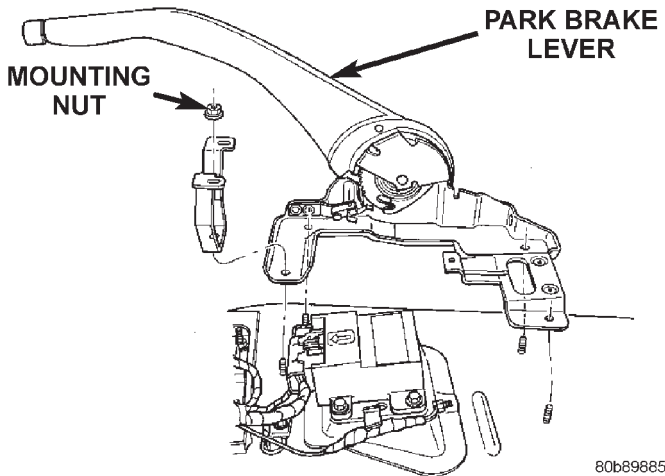

Fig. 46 Parking Brake Lever Mounting
- (8) Remove the park brake lever mounting nuts and console bracket. (Fig. 46).
- (9) Lift the lever assembly off the mounting studs and pull the front cable out of the lever bracket.
- (1) Install the lever assembly on the mounting studs while feeding the front cable into the lever bracket.
- (2) Install the console bracket (Fig. 46) and mounting nuts.
- (3) Engage the front cable end to the lever.
- (4) Connect parking brake switch wire connector.
- (5) Pull on the lever to release the lock out spring.
- (6) Install center console, refer to Group 23 Body.
- (7) Fold down the rear carpet cover and rear seat.